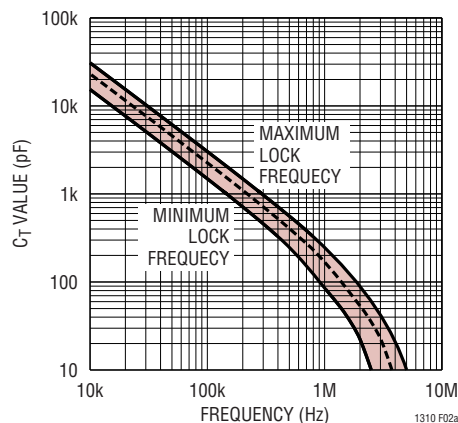

Figure 2a. CT vs Operating Frequency
To synchronize to an external input signal, the timing capacitor and PLL filter components must be chosen properly. This is a simple process and can be done using the graph in Figure 2a.
In Figure 2a, operating frequency is plotted versus timing capacitor (CT) with the upper and lower lines corresponding to the minimum and maximum lock frequency given a specific CT value. To choose the right timing capacitor, find the intersection of the desired operating frequency and the dashed line. Then move to the corresponding CT value.